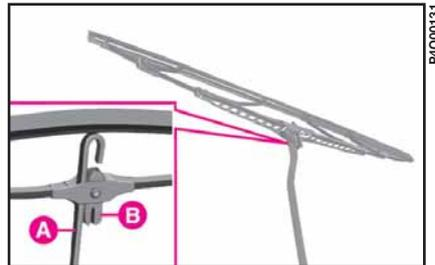

fig. 9
1) Lift the windscreen wiper arm **A**-fig. 9 off the glass and position the blade so as to form a right angle with the arm.